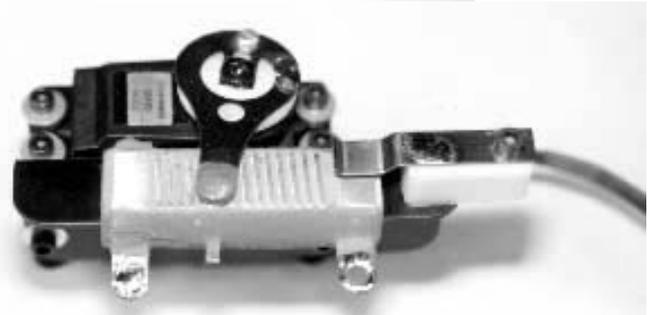

Fig. 171
(4) In the same parts bag you will find the #6714 brass throttle bypass tab and one #6924 4-40 x 3/8" socket head cap screw. (5) Place the bypass tab on top of the mount with the bent end down so that it is closer to the #6711 throttle resistor. (6) Use the #6924 screw to fasten the tab to the mount. To make sure everything is correct rotate the wiper arm so that it goes under the bypass tab. The wiper arm is suppose to fit snugly between the resistor and bypass tab. If not you can either adjust the position of the resistor by raising the mounting brackets or you can bend the end of the bypass tab down so that it makes more contact with the wiper arm. Fig. 171 shows your throttle servo assembled.